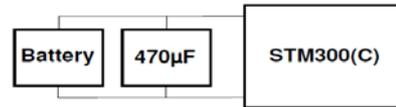

Fig.2
Bearing in mind that the energy of a battery cannot be fully drawn for this purpose (means only approx. 50% of its nominal capacity, until the voltage drops below about 2.2 V), a single CR2032 coin cell still allows more than 8 years of continuous function. In these 8 years the STM 300(C) can wake up and transmit more than 2.5 millions times. Please notice that in order to ensure the needed peak current capability of approx. 40 mA without damage, the coin cell battery must be buffered by an external low leakage capacitor (not on STM 300(C) included, see Fig.2.)